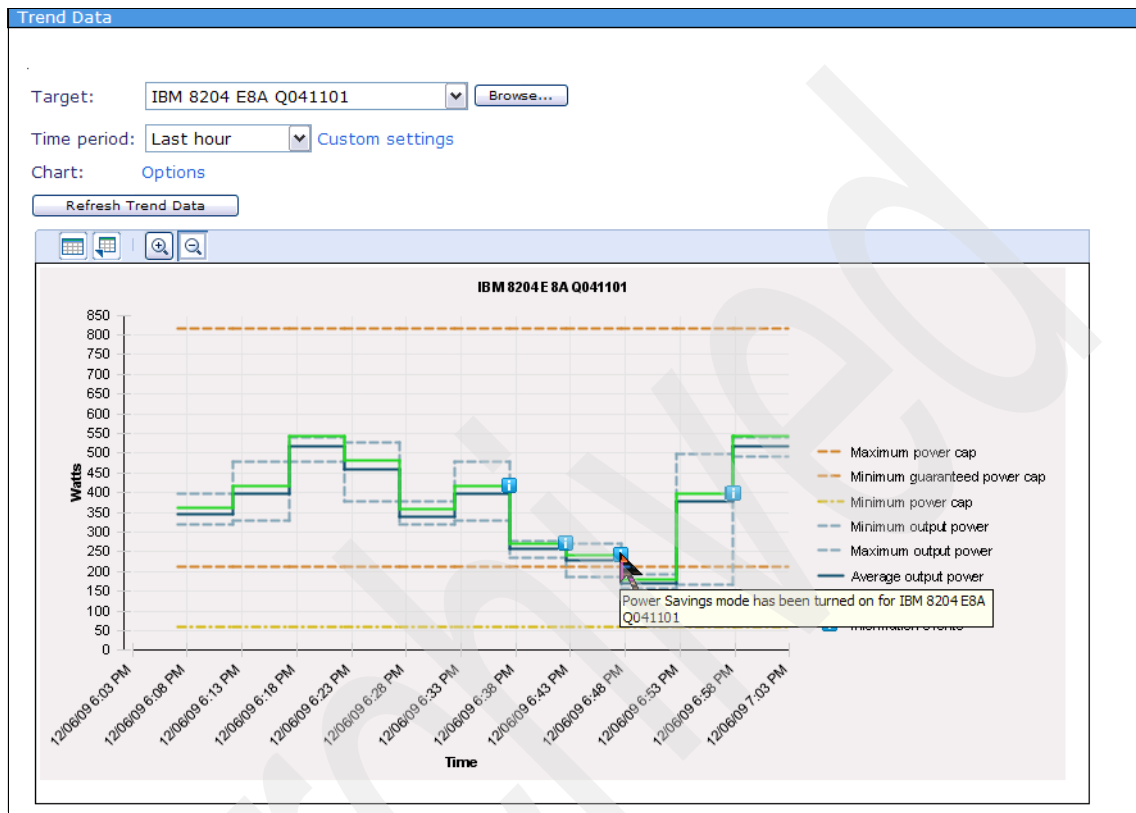

Figure 7-66 Applying a policy - 14
9. You can also confirm that the policy has been successfully applied by checking the trend data for the selected systems. An example is shown in Figure 7-66.